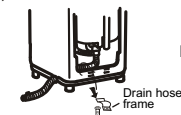

Figure 1
- 1.Loosen the screws of back cover, dismantle the back cover, then take off the drain hose (As indicated figure 1)